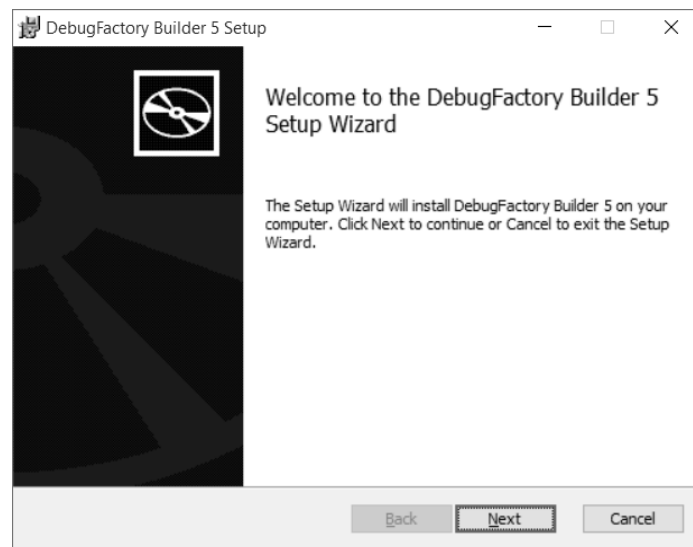

Figure 1.1.2 Starting of setting up DebugFactory Builder 5
2. After Setup program is started, the dialog shown in Figure 1.1.2 appears. Click <Next>.